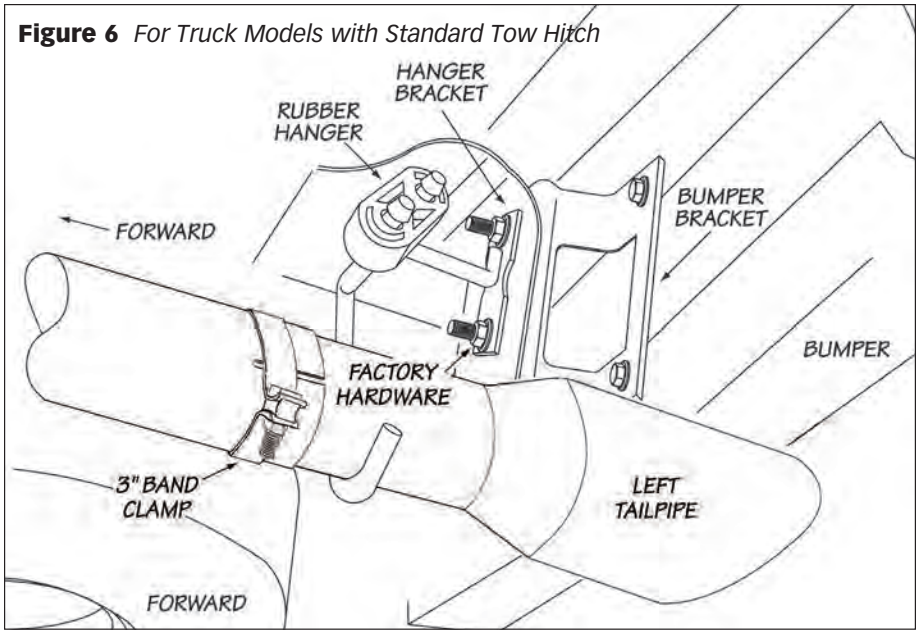

Figure 7 For Truck Models with Heavy Duty Tow Hitch
FOR TRUCK MODELS WITH HEAVY DUTY TOW HITCH PACKAGE ONLY, Install the supplied hanger bracket on the rear driver-side frame rail using the supplied hardware. Be sure the hanger pin is align parallel to the frame rail and torque the hardware to 48ft-lbs. Repeat this process for mounting the right hanger bracket. See **Figure 7**.
14. Install the 3" band clamp onto the outlet of the Rear driver-side tailpipe and install the driver-side tailpipe tip onto the Rear driver-side tailpipe. Install the driver-side tailpipe tip hanger into the rear rubber hanger. Keep the wrapping on until installation is complete. The tip and the clamp should be rotated so the clamp nut and drain hole are pointing down. Repeat this process for the right side tailpipe tip installation. See **Figure 7**.